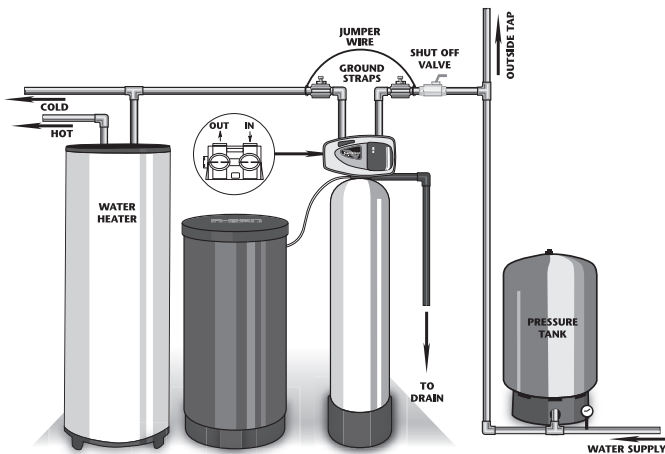
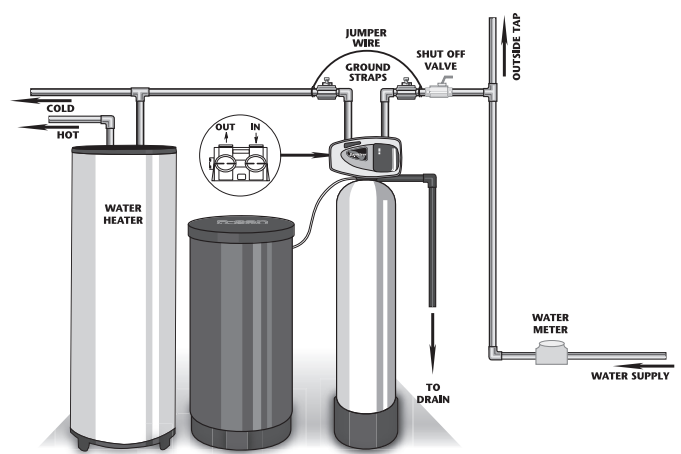

Figure 1
Figure 2
1. A selection site should be chosen for your conditioner. If you have a well system, this would be after the pressure tank but before the hot water heater (*Fig. 1*). If you have city water, install the softener on the inlet line to the building before the hot water heater (*Fig. 2*).